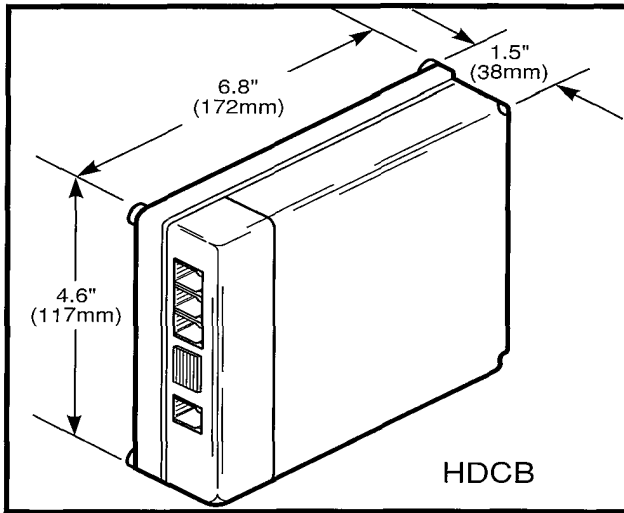

FIGURE 2-17—DOOR PHONE/LOCK CONTROL UNIT (HDCB)
8.32 Door Phone. Up to 12 door phones may be installed on any STRATA DK system. Five of the door phones may be associated with the door lock. When used in this manner, the door phone is mounted outside a building, next to a locked door whose entry requires screening. A door phone can also function as a sound monitor—any electronic telephone can call the door phone's station number and listen to sounds within its immediate area. Up to three door phones or two door phones and one door lock can be connected to each HDCB door phone control unit (Figure 2-17). See the *General Description* for more details.